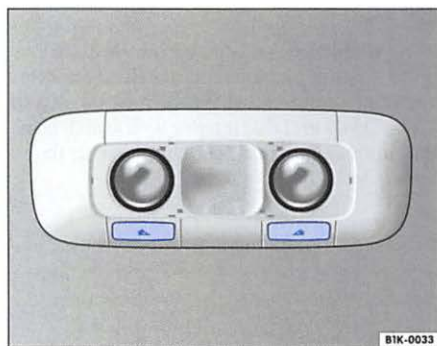

Fig. 42 Section of roof: rear interior light and reading lights
- Press the button ⇒ fig. 42 to switch on the reading light.